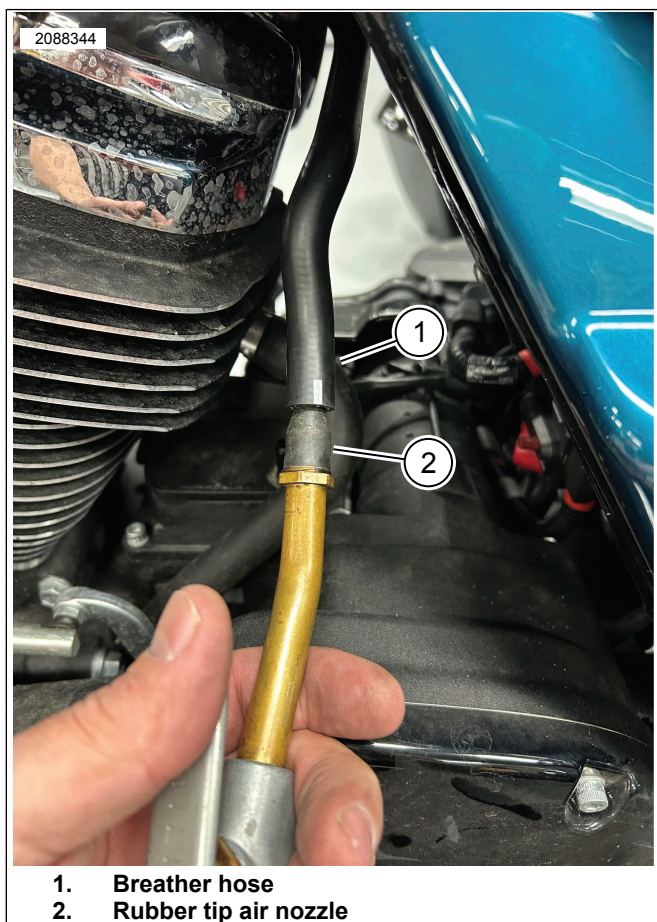

Figure 1. Breather Hose
2. Verify that the vehicle is equipped with the Original Equipment (OE) Airbox Assembly (Part No. 29000373).
5. See Figure 1. Gently apply air to breather hose in the direction of the air cleaner backing plate, using an air gun with a rubber tip with a rubber tip to ensure proper sealing.